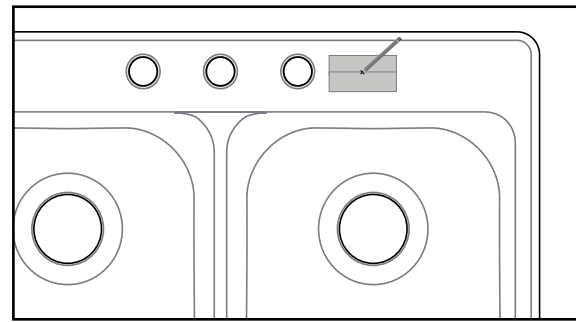

FIGURE 1. Mark extra hole location
- Mark center of hole on masking tape (Fig 1).